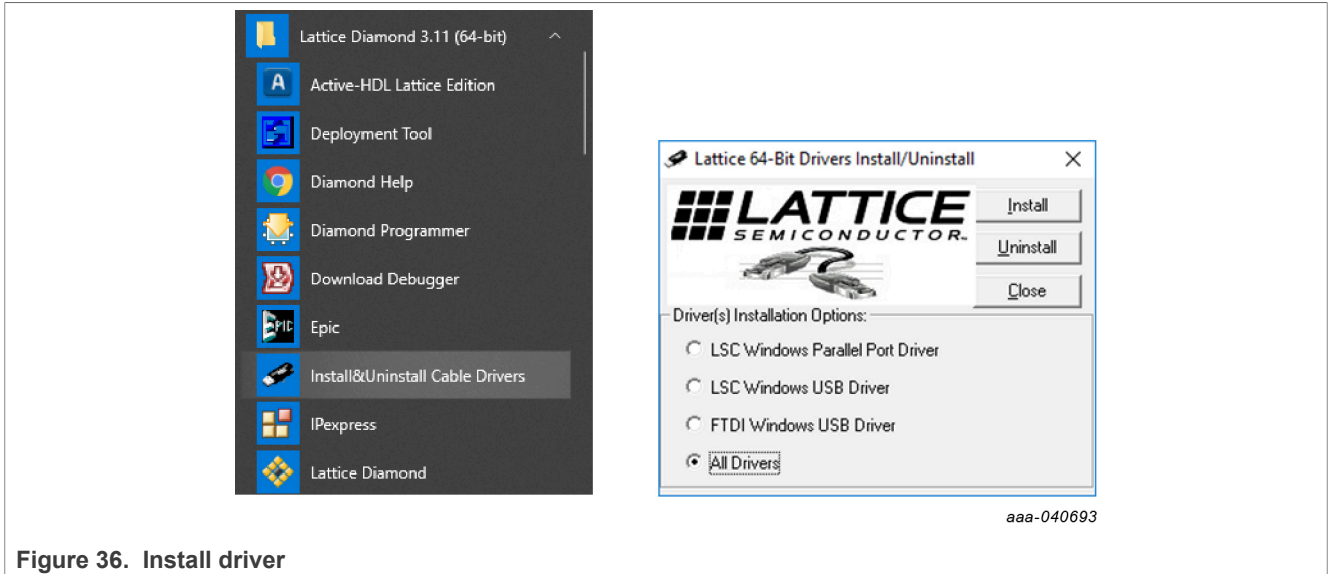

Figure 36. Install driver
4. Select **All Drivers**, as shown in Figure 36.